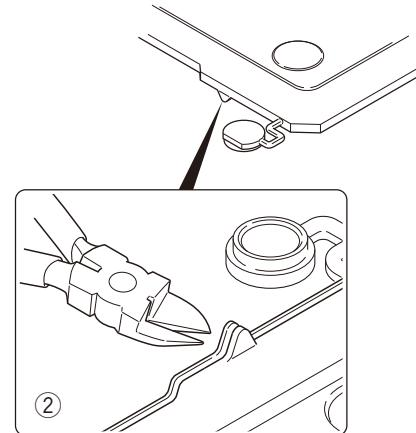

Fig. 6-3
- Note:** If the GPS receiver is installed, cut the base of the convex tab of the top packing with a pair of nippers, or similar tool. (Fig. 6-3 ②)